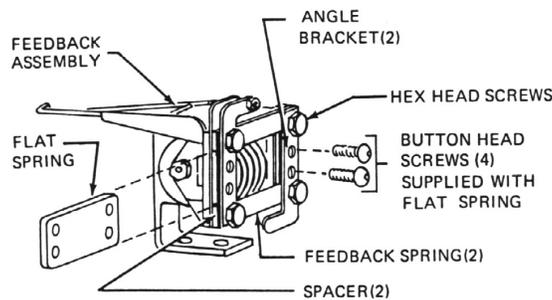

Figure 16.
3. Loosen the four hex head screws (formerly button head screws) but do not remove them. See Figure 16.